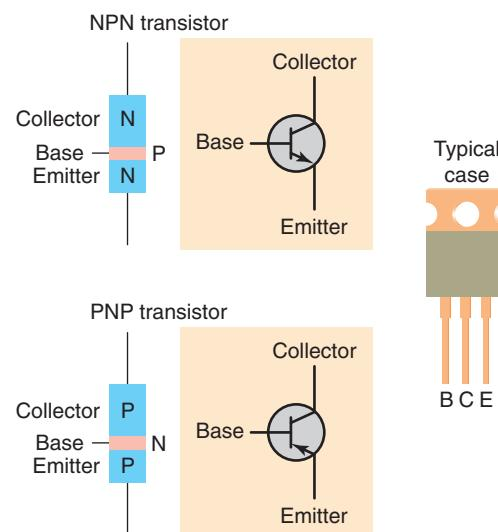

Figure 9-14 Bipolar junction transistor (BJT).
A bipolar junction transistor (BJT) consists of a three-layer sandwich of doped semiconductor materials consisting of an **emitter** (E), a **base** (B), and a **collector** (C). The emitter layer is medium in size, the base is very thin, and the collector is large. There are two major types of bipolar transistors, called **NPN** and **PNP**, as illustrated in Figure 9-14. The letters refer to the layers of semiconductor